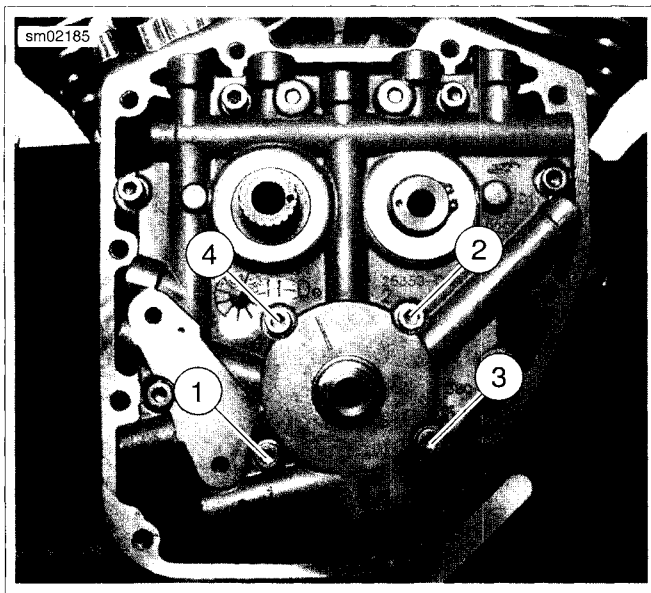

Figure 3-53. Oil Pump Torque Sequence
1. See Figure 3-53. Following the sequence shown, alternately loosen and then remove the four allen head socket screws with captive washers to release the cam support plate from the oil pump flange.